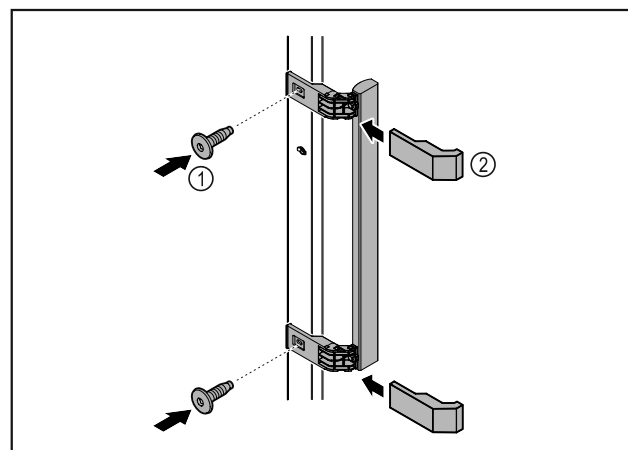

Fig. 48
- ▶ Attach handle from accessory kit to the door using the screws supplied Fig. 48 (1).
- ▶ Put on cover Fig. 48 (2).